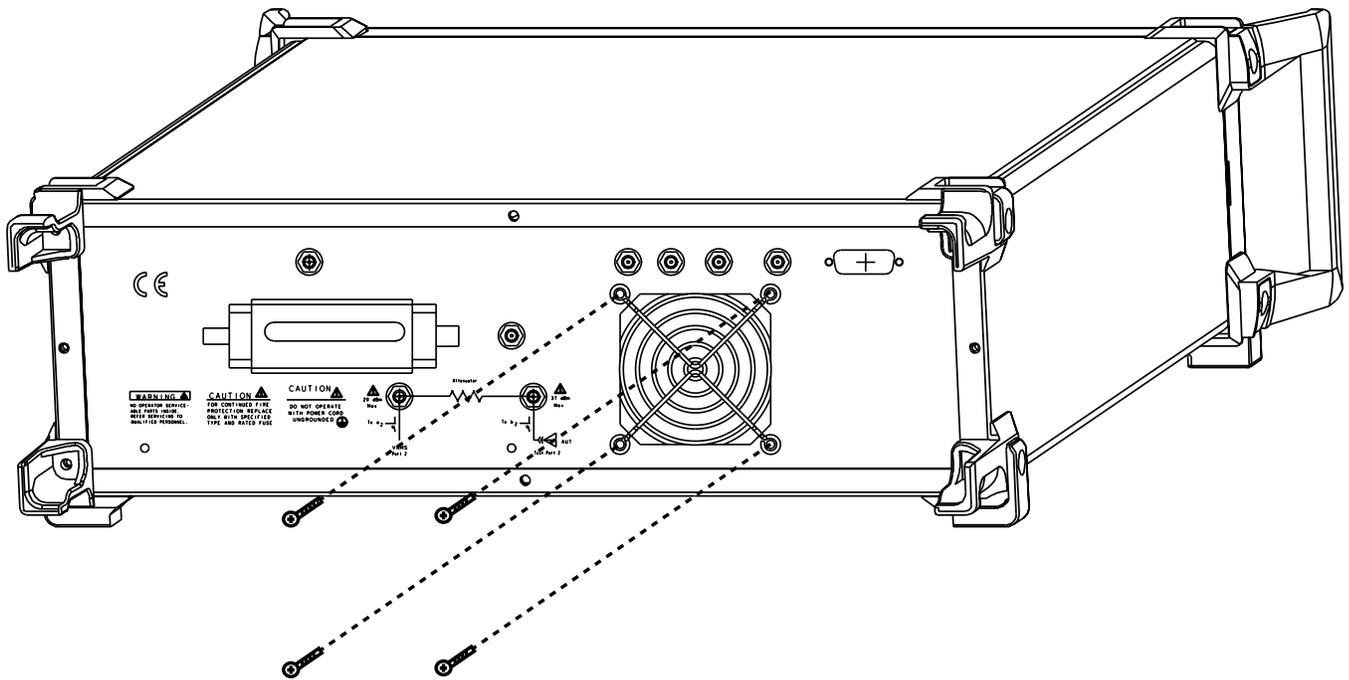

Figure 5-11. Fan Removal
- Step 3.** Use a #1 Phillips screwdriver to remove the four screws holding the fan guard in place (Figure 5-11).